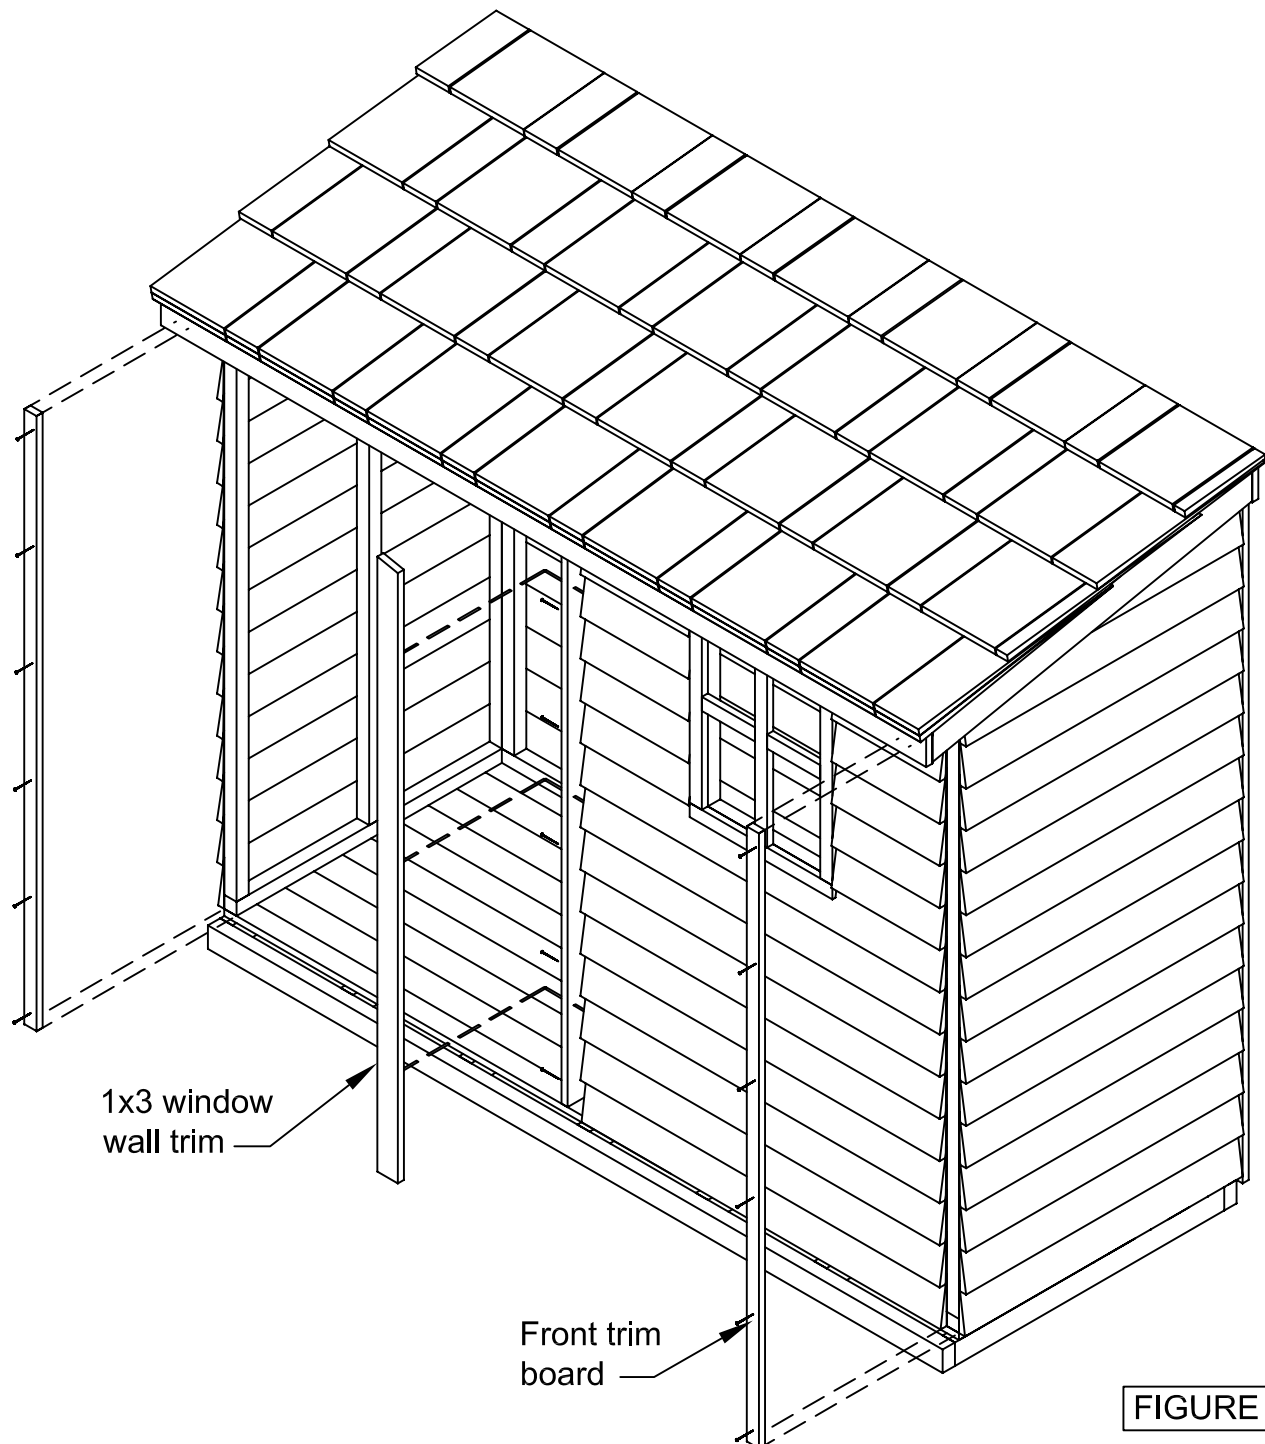

FIGURE S11
- Fasten the two door trim boards to the front corners of the Yardsaver as shown in "Figure S11". They will fit flush against the outside and bottom edge of the siding. Also attach the window wall trim to the end of the panel, making sure that the angle cut is at the top, matching the slope of the roof. Use 6 - 2" finishing nails each to fasten each of the trim pieces.